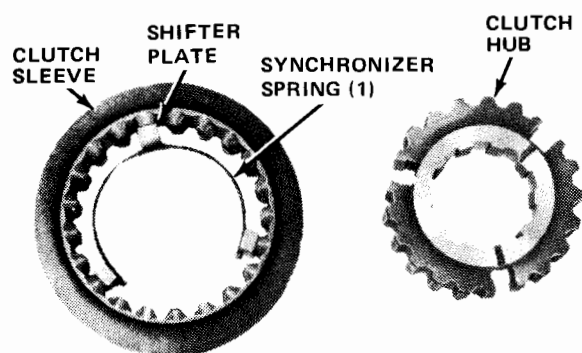
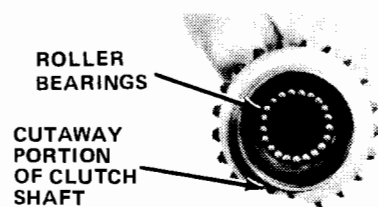
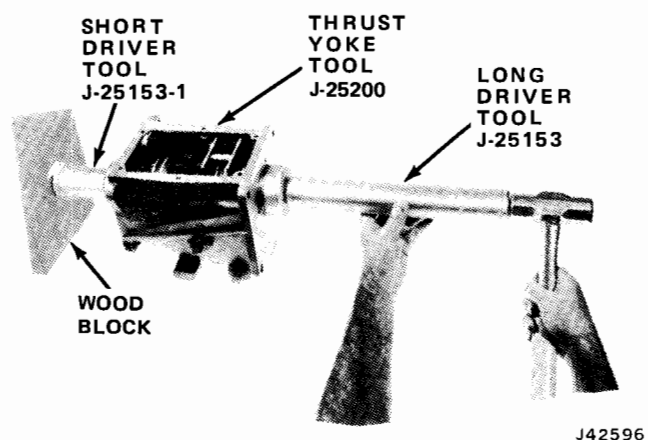

Fig. 6-26 First Gear Synchronizer Assembly
Fig. 6-30 Clutch Shaft Installation
Fig. 6-31 Front Bearing Installation
(9) Install lock plate in slots of reverse idler shaft and countershaft. Tap end of shafts until lock plate is seated against case (fig. 6-30).
(10) Install First gear and blocking ring on main shaft.
(11) Assemble First gear synchronizer assembly (fig. 6-26). Index sleeve to hub using alignment marks made at disassembly. Install sleeve shifting plates and insert spring and install assembly on main shaft.
(19) Install clutch shaft in case with cutaway portion of shaft facing downward (fig. 6-30). Guide shaft onto main shaft. Do not displace main shaft pilot bearing rollers during installation.
(20) Install front bearing retainer on clutch shaft.
(21) Install lockrings on front and rear bearings and install bearings using Installer Set J-25153 and Thrust Yoke Tool J-25200 (to prevent damaging synchronizer parts during bearing installation).
(22) Install thrust yoke tool into Second gear groove and between clutch shaft teeth and blocking ring. Use both bearing driver tools from set J-25153 and wooden backup block when installing bearings (fig. 6-31 and 6-32).
(23) Install front and rear bearing retaining snap rings.